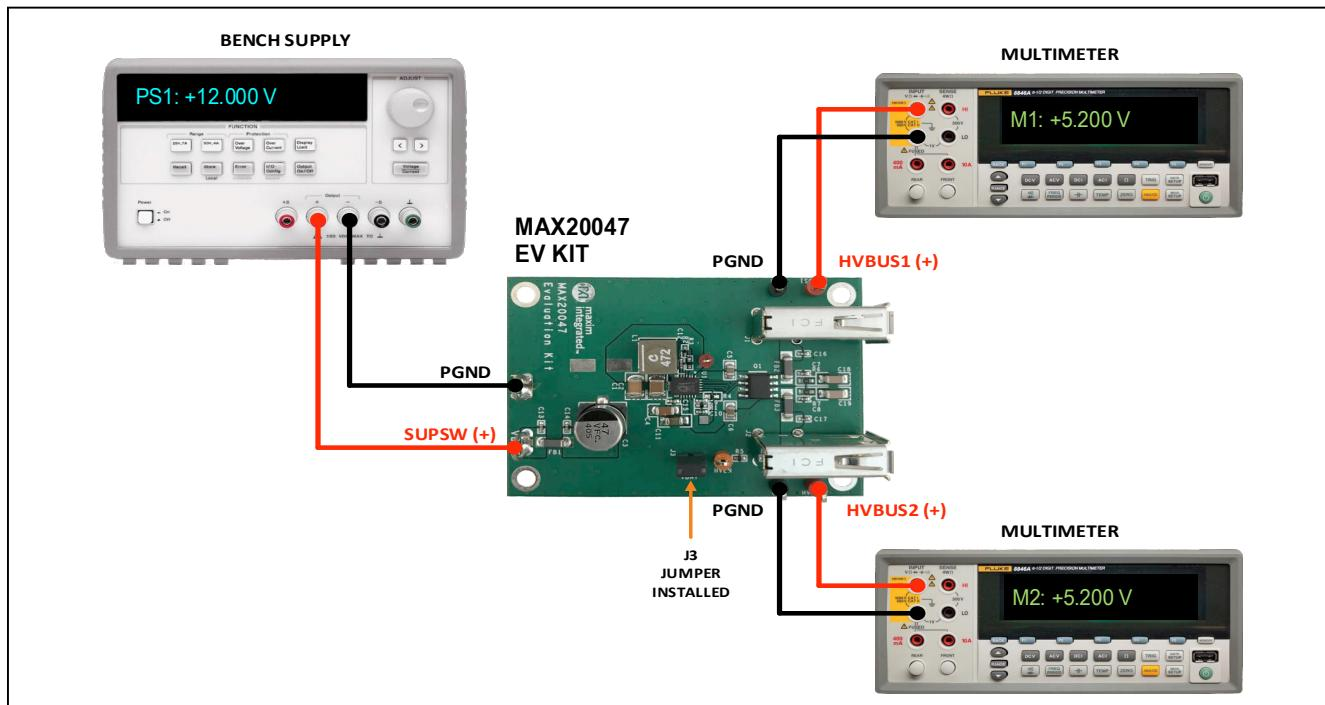

Figure 2. Test Setup for Testing HVBUS1/HVBUS2
Figure 2 shows the test setup to evaluate the IC's VBUS port voltages:
- 1) With the EV kit connected (see Figure 2), set PS1 to 12.000V and enable the power-supply output.